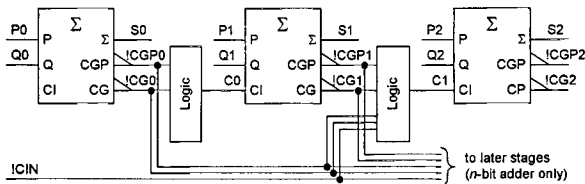

Figure 5
4. Figure 5 shows the circuit of a 3-bit carry-lookahead adder. Each full-adder module has two carry outputs: $!CG = !(P \cdot Q)$ and $!CGP = !(P+Q)$.